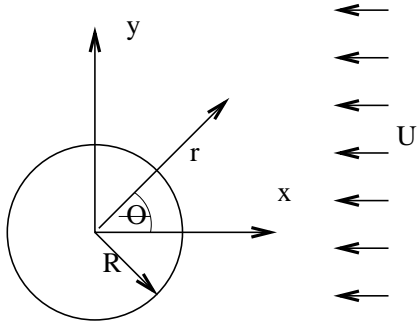

Figure 17: Flow past a cylinder.
3. Consider the flow around a cylinder in two dimensions as shown in figure 17. The velocity field in the radial co-ordinate system is given by,